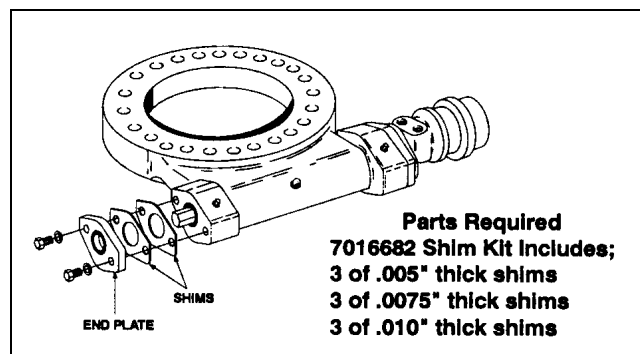

Figure 2-35. Worm Gear Shim Kit
2.18 DRIVE BRAKE ASSEMBLY. (SEE FIGURE 2-35.)
9. If new plates have been fitted, then new spacers will have to be adjusted for air gap of 0.014 - 0.024 inches (0.35 - 0.60 mm) as shown in Figure 2-35.
12. The brake can be adjusted for friction plate wear by removing spacers (8) and machining them to maintain the correct air gap. Length of all three spacers should be within 0.001 in. (0.025 mm).